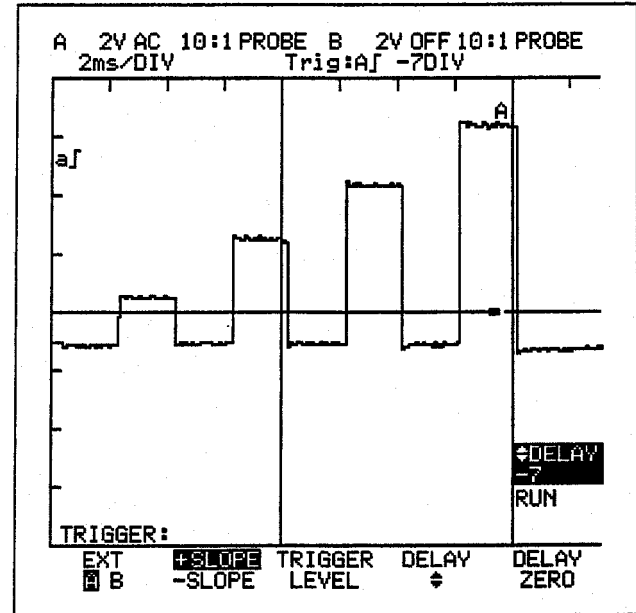

Figure 6.8
- Use **▼** to adjust the DELAY to -7 (refer to Figure 6-8).
Adjusting the time delay to -7 DIV has moved the trigger point to the seventh division on the screen and you now see seven divisions of information that occur before the trigger. (see Figure 6-8.). To look in more detail at the 50% pulse you can use ZOOM (The ZOOM Function not available on the 93). The ZOOM function expands the trace referenced to the fourth display division, and automatically adjusts the delay.